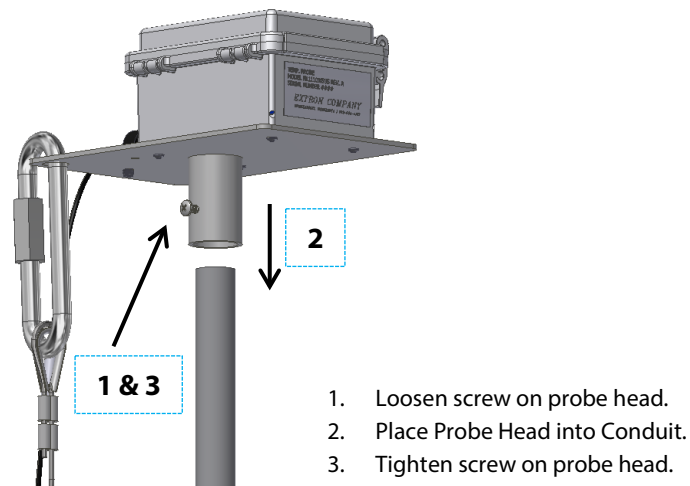

Figure 6: Conduit & Probe Head
- 14) Loosen the #10-32 screw on the Probe Head and place the Probe onto the Conduit. Tighten the screw to secure the Probe to the Conduit. Refer to **Figure 6: Conduit & Probe Head**.